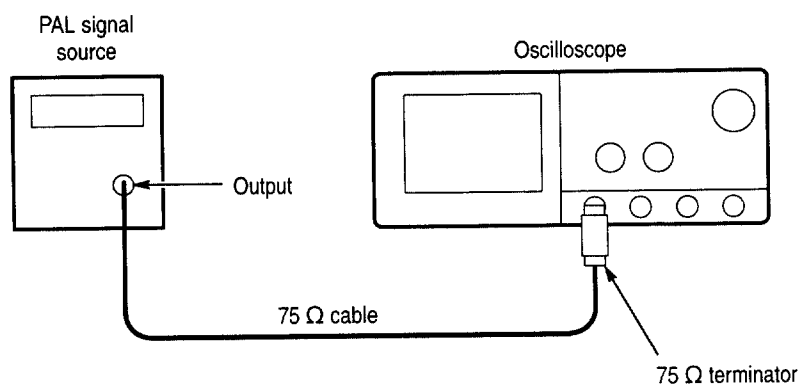

Figure 1–36: Line count accuracy test hookup
- Use the **HORIZONTAL POSITION** knob to move the falling edge of the sync pulse to two divisions to the left of center screen. See Figure 1–37.